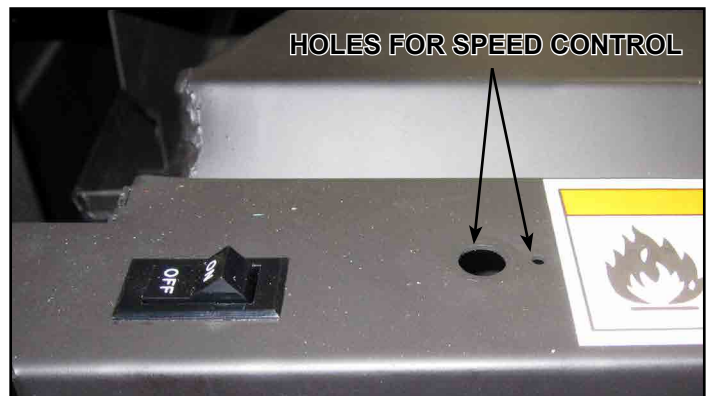

Figure 8.5 Pre-Punched Holes for Speed Control
4. Remove the knob and locknut from the speed control. Install speed control onto rear shroud with stem protruding from pre-punched hole. Attach the lock nut tightly and reattach the knob on the stem. See Figure 8.5.